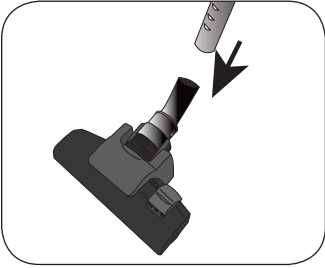

Fig. 3
Assemble the tube on the brush (B) (Fig. 3).